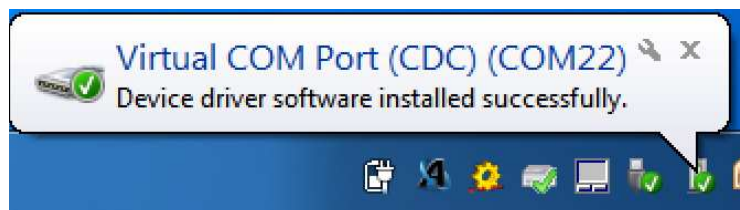

Figure 7. Confirmation of SDM-USB-DIG Platform Driver Installation
Figure 7 shows the typical response when connecting the SDM-USB-DIG platform to a USB port of a personal computer (PC) for the first time. The PC usually responds with a Found New Hardware, USB Device pop-up dialog window. The pop-up window then changes to *Found New Hardware, Virtual COM Port (CDC)*. This pop-up indicates that the device is ready for use. The CDC driver is used for communication between the SDM-USB-DIG and PC.